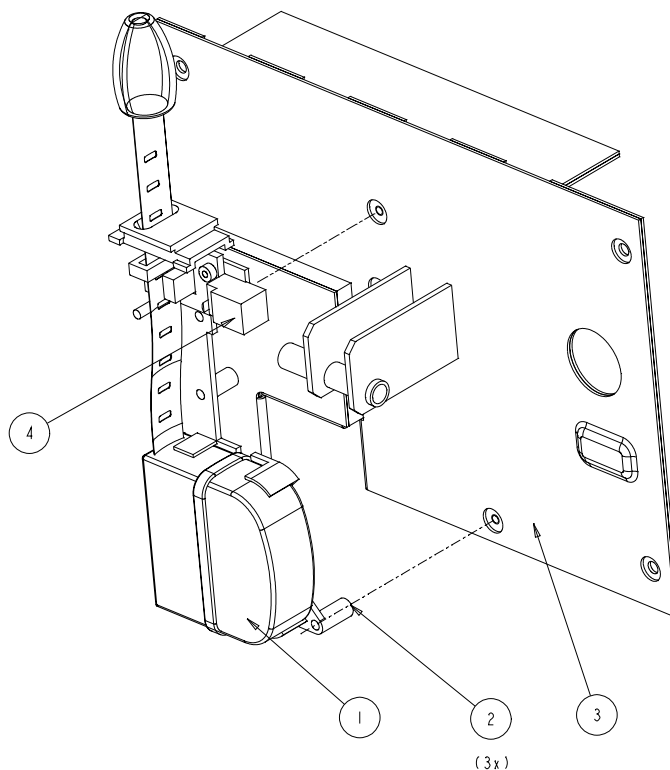

Figure 14: Replace Electronic Ruler
4. Disconnect connector LA5X1 (item 4, Figure 14)
6. Remove electrical ruler assembly (item 1, Figure 14) from the ruler Side-plate (item 3, Figure 14), by loosening the three screws (item 2, Figure 14)